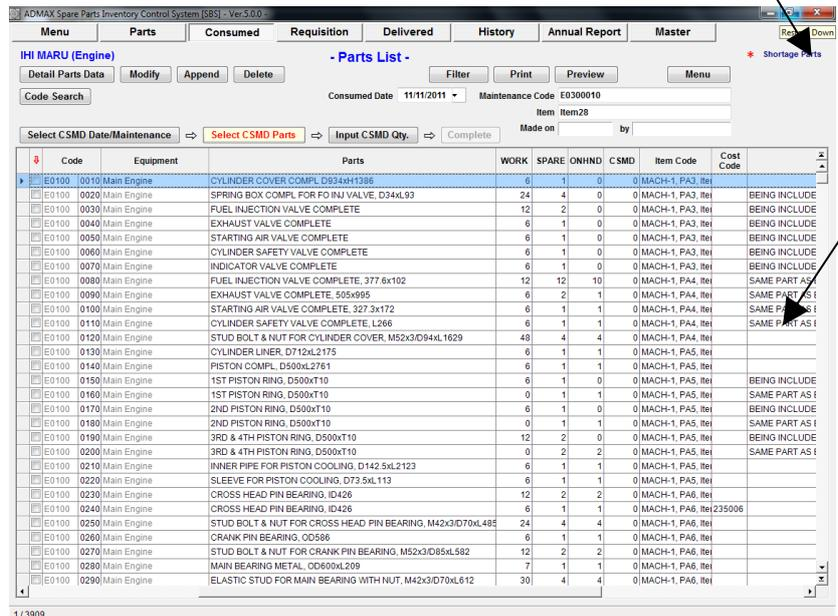

Fig.6-7 SPICS Screen
- (2) If you select [Input Consumed Parts / QTY] button, then SPICS (Spare Parts Inventory Control System) is opened and Parts List is displayed.
- (3) Please select and control the consumed parts by using SPICS. (Fig.6-7)